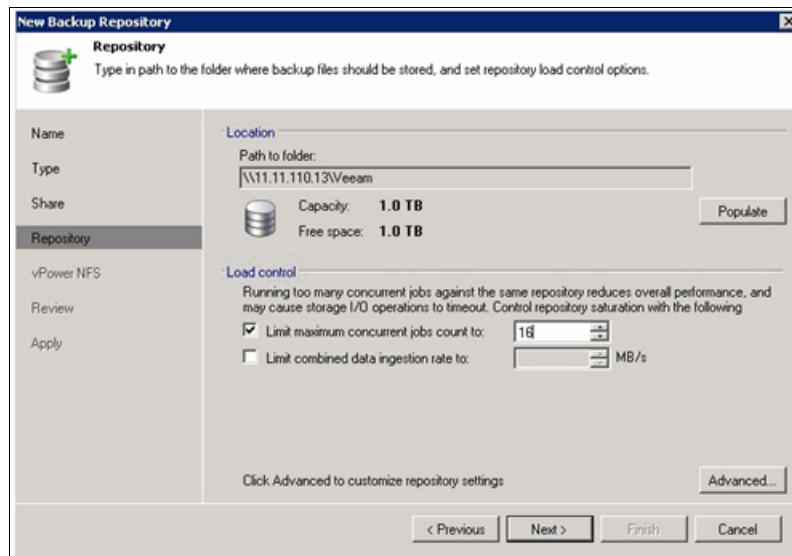

Figure 19-2 Setting maximum concurrent jobs count
7. For the Repository location (Figure 19-2), click **Populate** to calculate the capacity and free space on the selected share folder.